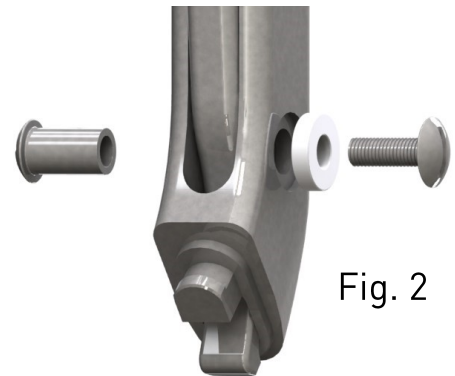

Fig. 2
2) Take off the washer and the screw (Fig. 2)